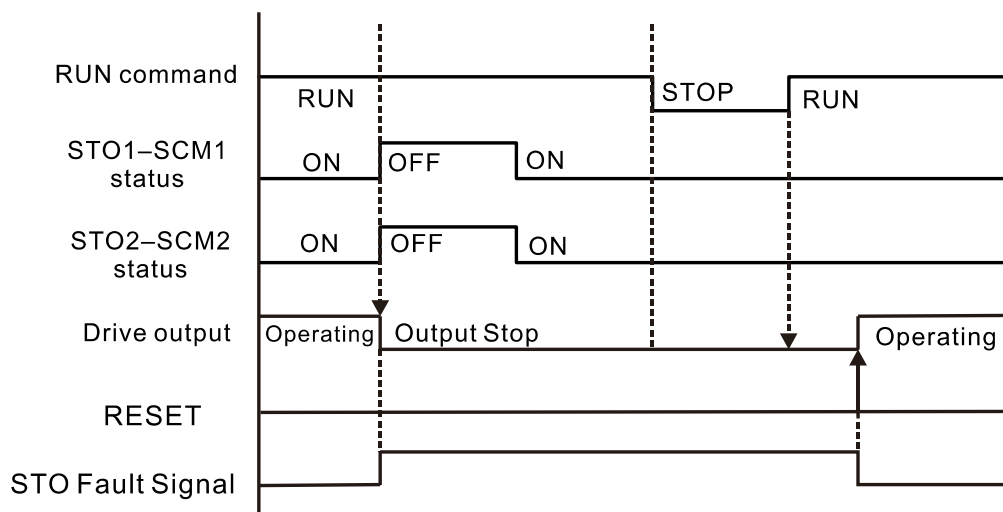

Figure 2
2. Common-mode noise in the power cable is transmitted through the stray capacitance and coupled into the adjacent signal cable, as shown in Figure 2. Several methods can be applied to reduce the effect of this common-mode noise; for example, shield the power cable and/or the signal cables, separate the power and signal cables, take the input and output side of the signal cable and twist them together to balance out the stray capacitance, let power cables and signal cables cross at 90° , etc.